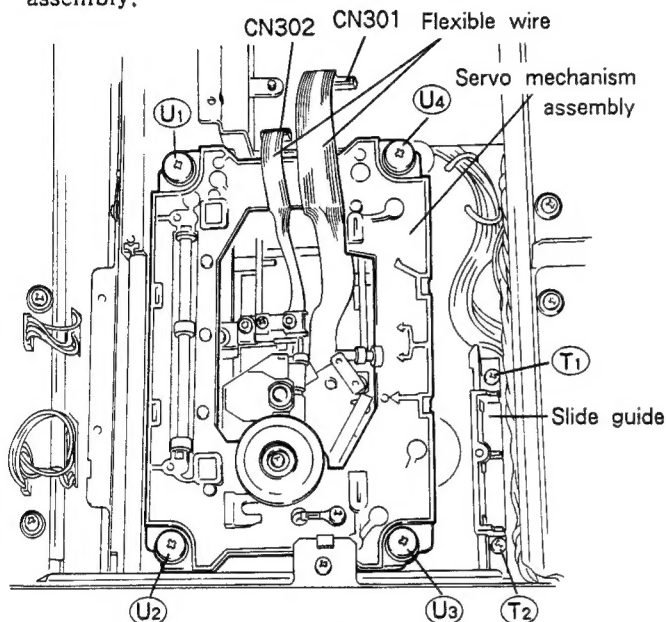

Fig. 2-6.
2. Remove the slide guide. (Screws T_1 and T_2 , refer to Fig. 2-6.)